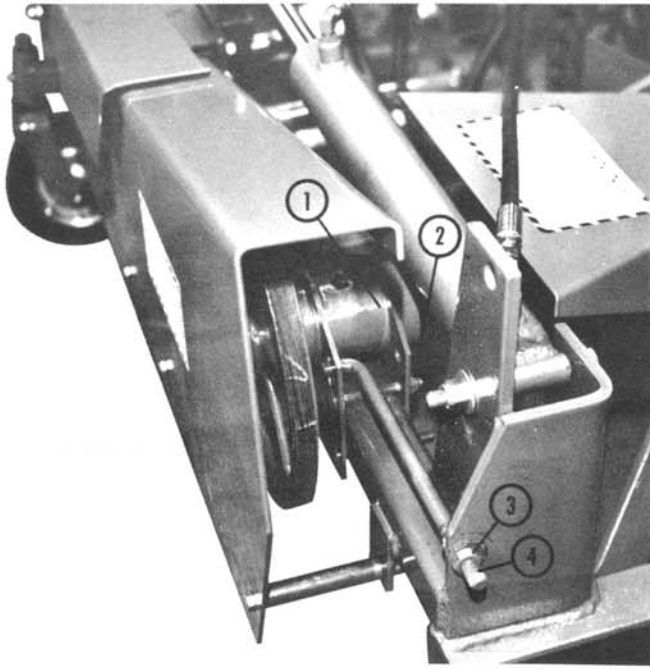

Fig. 11
- B. Loosen the four (4) nuts on the bolts securing the pulley drive to the frame. See fig. 11.
- C. Loosen the nuts on the adjusting rod. See fig. 11.